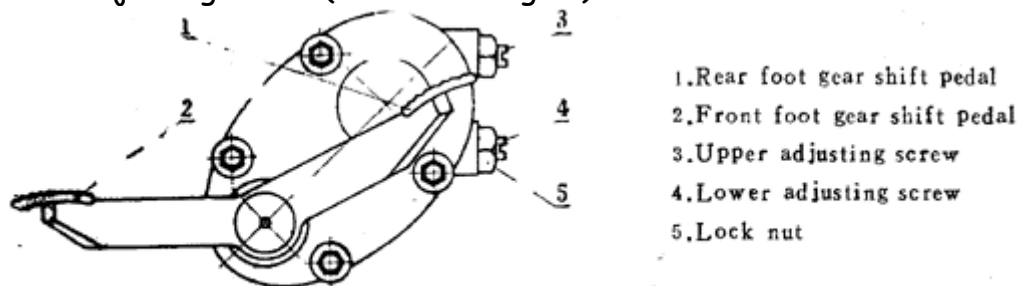

Fig. 12 Schematic Diagram of Foot Gear Shift Mechanism
4. 6.1 If trip-under stop happens in shifting from lower to higher gear position, screw out the lower adjusting screw (Item 2 In Fig.12).
4.6.3 If trip-under stop happens in shifting from higher to lower gear position, screw out the upper adjusting screw (Item1 in Fig.12).